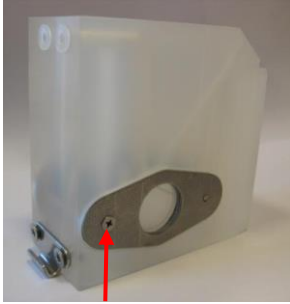

Figure 35
11. Fix the sight glasses in place with the sight glass holders (see figure 35).